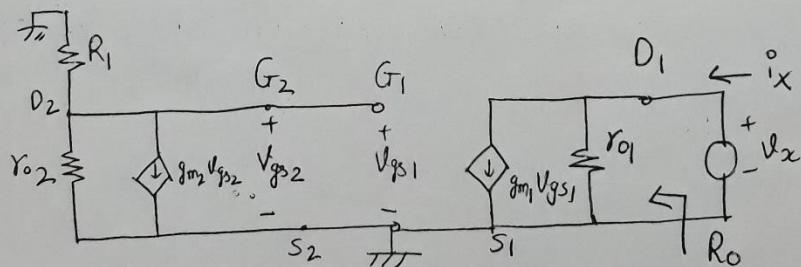

fig 7.2 : Small-sig equivalent ckt. of fig 7.1
- The small-sig o/p resistance of the current source can be estimated as follows, (fig 7.2)